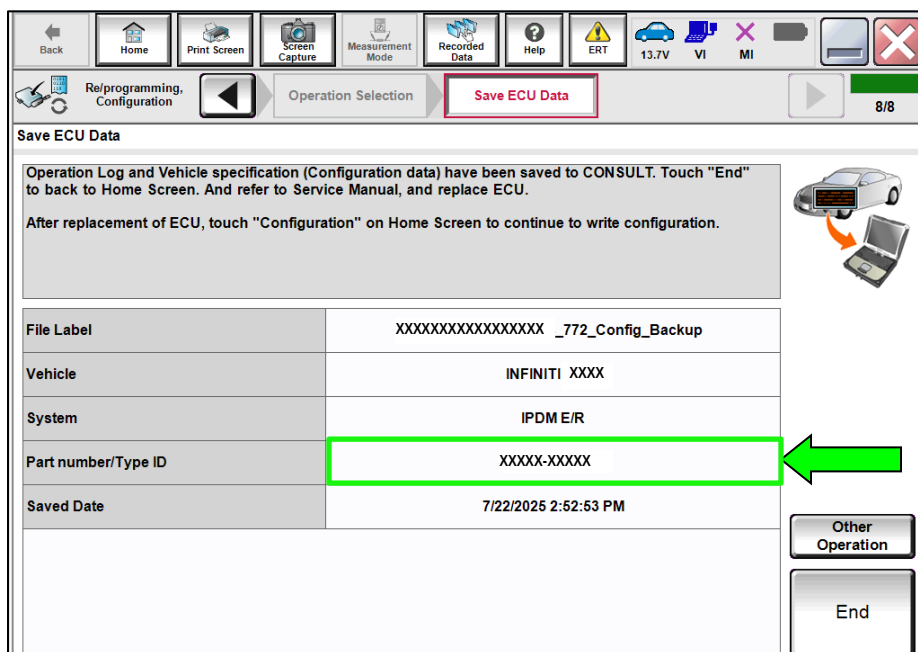

Figure 10
19. Confirm the current **Part number/Type ID** and write it on the repair order (Figure 10).